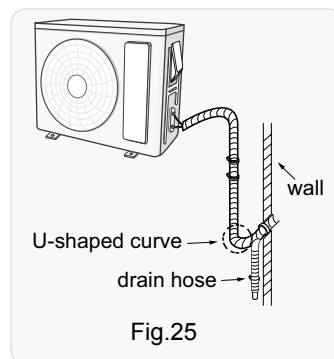

Fig.25
(1) The pipes should be placed along the wall, bent reasonably and hidden possibly. Min. semidiameter of bending the pipe is 10cm.
(2) If the outdoor unit is higher than the wall hole, you must set a U-shaped curve in the pipe before pipe goes into the room, in order to prevent rain from getting into the room. (As show in Fig.25)